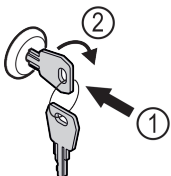

Fig. 196 Example illustration
- ▶ Insert key Fig. 196 (1).
- ▶ Turn key clockwise by 90° Fig. 196 (2).